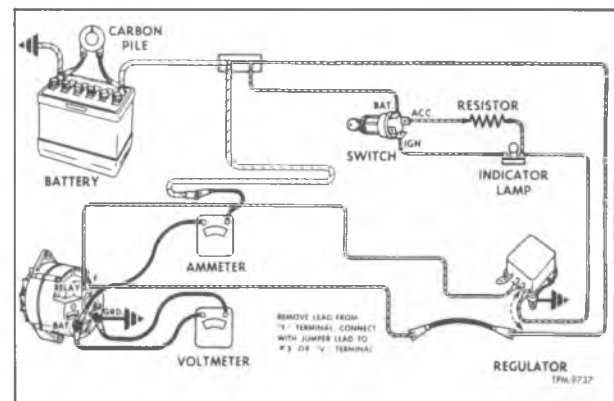

Figure 7—Connections for Testing Generator Output
2. Remove wire from "BAT" terminal on generator, and connect an ammeter between wire and "BAT" terminal on generator (fig. 7).
**IMPORTANT:** With wiring connected as shown in figure 7, the voltage regulator is taken out of the circuit, and causes field to be energized by full battery voltage. Generator output voltage must be controlled by loading the battery with a carbon pile or turning on vehicle accessories. Do not permit voltage to exceed setting specified for regulator as listed in "Specifications."